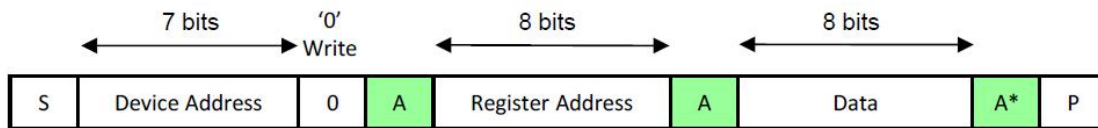

Figure 4. I²C Write – Slave Receiver Mode
1. Slave Receiver Mode (Write Mode): Serial data and clock are received through SDA and SCL. After each byte is received an acknowledge bit is transmitted. START and STOP conditions are recognized as the beginning and end of a serial transfer. Address recognition is performed by hardware after reception of the slave address and direction bit (see Figure 4 for Interface). The slave address byte is the first byte received after the master generates the START condition. The slave address byte contains the 7-bit WL2864 address followed by the direction bit (R/W), which, for a write, is 0. After receiving and decoding the slave address byte the device outputs an acknowledge on the SDA line. After the WL2864 acknowledges the slave address + write bit, the master transmits a register address to the WL2864. This sets the register pointer on the WL2864. The master may then transmit zero or more bytes of data, with the WL2864 acknowledging each byte received. The address pointer will increment after each data byte is transferred. The master generates a STOP condition to terminate the data write.